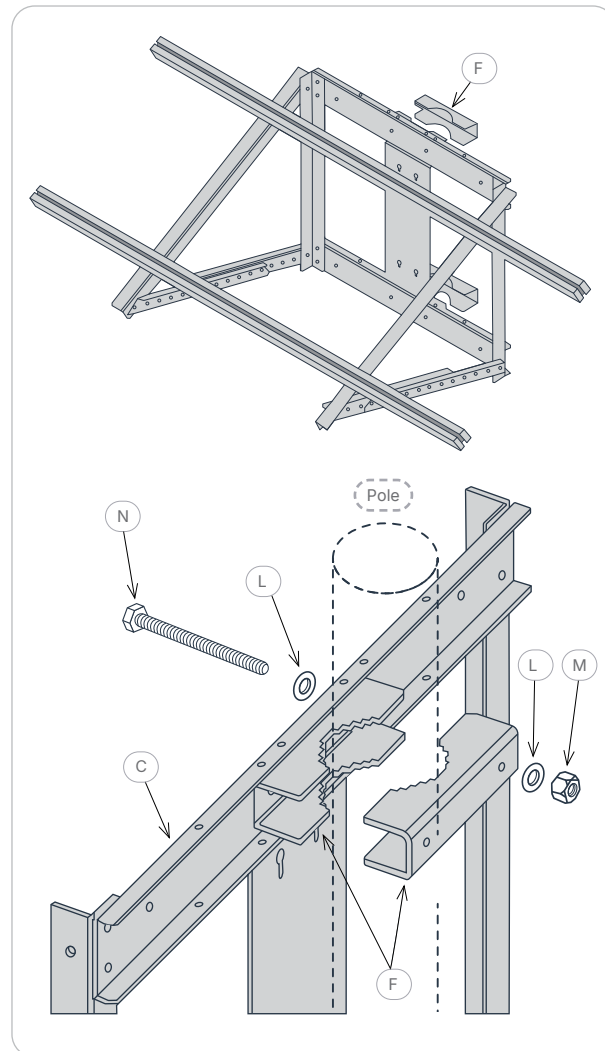

Figure 7. Installation on a pole.
a. For installation on a Pole, refer to **Figure 7**. Slide the **M8 × 180 mm Hex Head Bolt (N)** through the holes on the **Carrier Bracket (A)** and the **Pole Brackets (F)**. Place the structure against a pole and place a second **Pole Bracket (F)** on the other side of the pole with **(L)** and **(M)**.